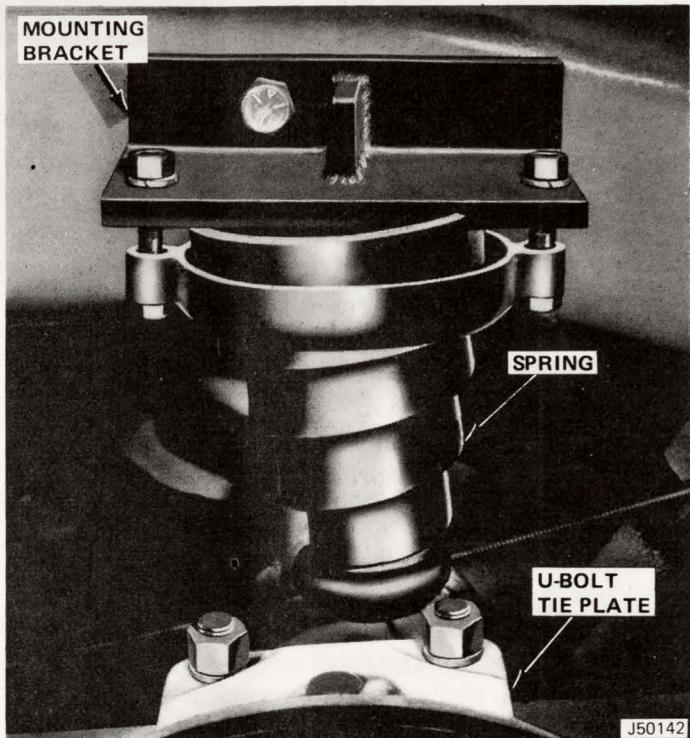

Fig. 8-4 Helper Springs Installed
- (1) Position helper spring mounting bracket on frame (fig. 8-4). Be sure that spring is centered over U-bolt tie plate. When properly positioned, mark bolt holes using mounting bracket as a template. Remove mounting bracket.